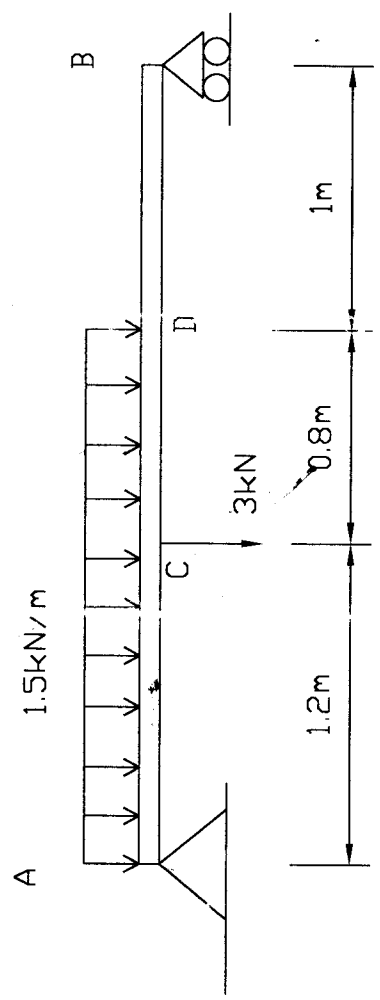

Fig 7
7. Draw the Shear Force and the Bending Moment Diagrams for the beam and loading shown (*Fig 7*). Show all your free body diagrams and equations.